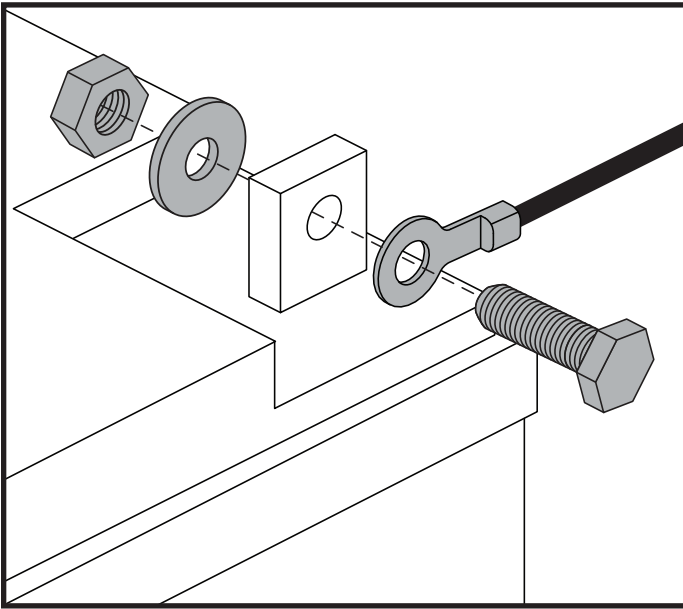

Figure 15. Battery Terminal Hardware - Configuration 1
4. Disconnect the battery cables from the battery terminals by sliding back the terminal boots and unscrewing the nut from the bolt. **See figures 15 and 16.**